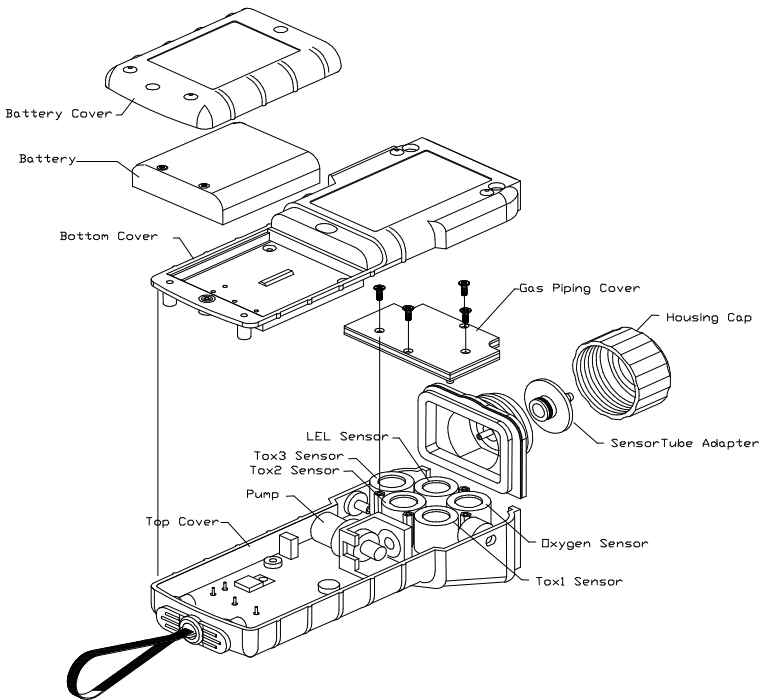

Figure 7.1 Main Components of VRAE
As shown in Figure 7.1, the major maintenance items of VRAE are:
2. Refer to Figure 7.1, unscrew two case screws from the bottom of the monitor case and remove the battery cover.
2. Refer to Figure 7.1, open the battery cover by unscrew the two screws from the bottom of the monitor case. Remove the battery pack.
4. Refer to Figure 7.1, carefully unscrew four No.2 screws that hold down the gas piping cover to the PCB and sensors. Remove the gas piping plate.
5. Refer to Figure 7.1, identify the location of a specific sensor and remove the sensor by gently pulling the sensor upward.
2. Refer to Figure 7.1, open the monitor cover, **remove the battery pack**, carefully unscrew four No.2 screws that hold down the gas piping plate to the PCB and sensors. Remove the gas piping plate.
5. Refer to Figure. 7.1, replace the gas piping plate and tighten the four screws to hold down the sensors. Replace the battery pack. Replace the battery cover.